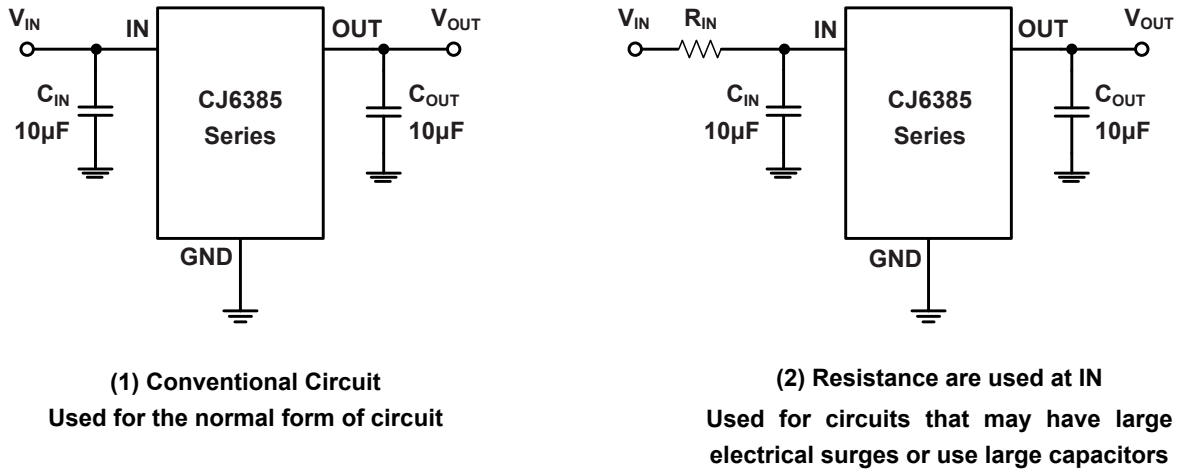
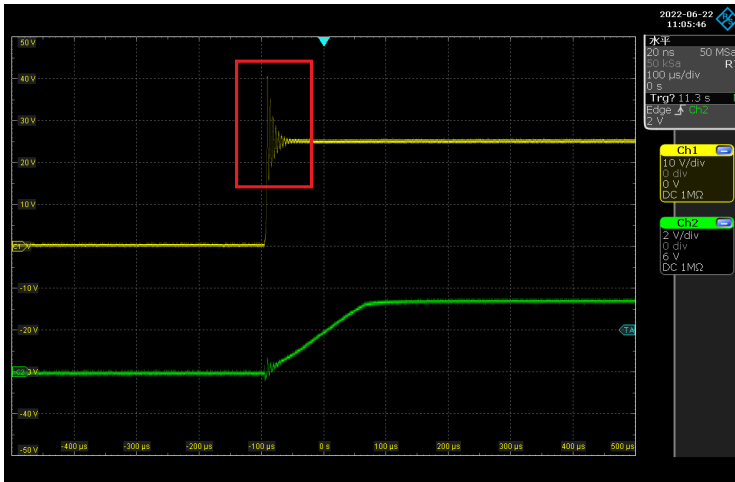
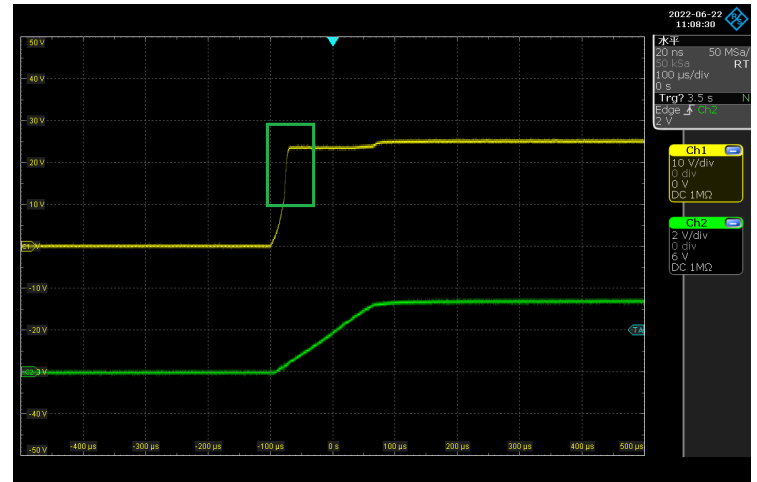

Figure 9-1. Fixed Output Regulator
Figure 9-2. Test with The Conventional Circuit [Figure 9-1-(1)]
Figure 9-3. Test with the Circuit that 5Ω Resistance are used at IN [Figure 9-1-(2)]
In the practical application of the circuit, place a resistor with appropriate resistance in series before the IN of the voltage regulator, which can help the voltage regulator share part of the energy in case of surge. The resistance value of the resistance should not be too large. The specific resistance value depends on the application of the circuit. Generally, the resistance value of this resistance does not exceed 20Ω. As shown in Figure 9-1-(2).
For the CJ6385 series, it is recommended that the input voltage should not exceed 20V and the peak voltage should not exceed 40V. **When the input voltage is greater than 20V, or the peak voltage that may be greater than 40V may appear in the practical circuit, it is recommended to adopt the circuit layout shown in Figure 9-1-(2) in the circuit design.**
The CJ6385 series can obtain better transient response with the help of output capacitance. However, if the output capacitor is relatively large, the surge current generated by the charging of the output capacitor will also be large at the moment of power on of the regulator, and the large surge current passing through the regulator may damage the internal circuit. When the output capacitance is large, adopting the circuit design shown in Figure 9-1-(2) will reduce the possibility of damage to the device due to large surge current to a certain extent. It is recommended that the selection of output capacitor should not exceed 20µF. **If the selection of output capacitor exceeds 20µF, it is recommended to adopt the circuit design in Figure 9-1-(2) to reduce the possibility of accidental failure of the device due to large surge current during power on.**
Figure 9-2 and Figure 9-3 show the impact of not using R_{IN} [Test circuit is shown in Figure 9-1-(1)] and using R_{IN} [Test circuit is shown in Figure 9-1-(2)] on suppressing surge voltage.
As shown in Figure 9-2., when the input is powered on from 0 to 25V, a very high peak voltage (shown in the red part) is generated in front of the input terminal of the device, and the maximum peak voltage is far more than 25V. When R_{IN} is used, as shown in Figure 9-3., the peak voltage generated by power on is effectively suppressed (shown in the green part).
The CJ6385 series requires a capacitor of $1\mu\text{F}$ or greater ($10\mu\text{F}$ is recommended for C_{IN}) to be connected between OUT and GND to maintain stability. Ceramic or tantalum capacitors can be used. The larger the capacitance, the better the transient and noise performance. However, when the input capacitance is large, the circuit shown in figure 9-1-(2) may be required. See *Large Output Capacitance* for details.